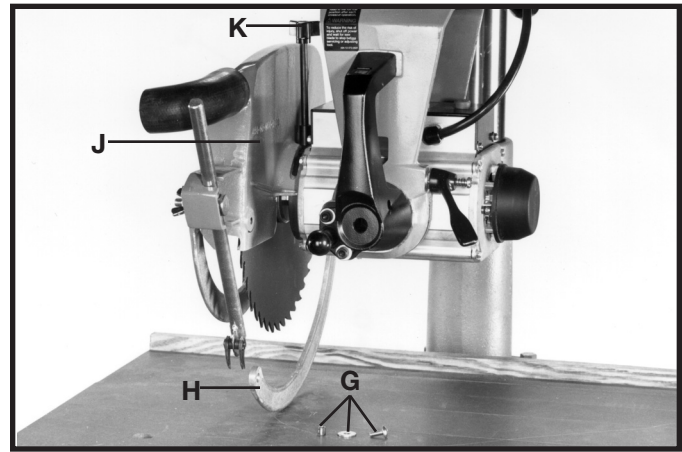

Fig. 31
5. Remove screw, flat washer and spacer (G) Fig. 31, that fasten the front inside leaf guard (H) to front end of blade guard (J). Assemble blade guard (J) to motor assembly with locking rod and washer (K).
6. Reassemble leaf guard (H) Fig. 31, to blade guard (J) using screw, flat washer and spacer (G).